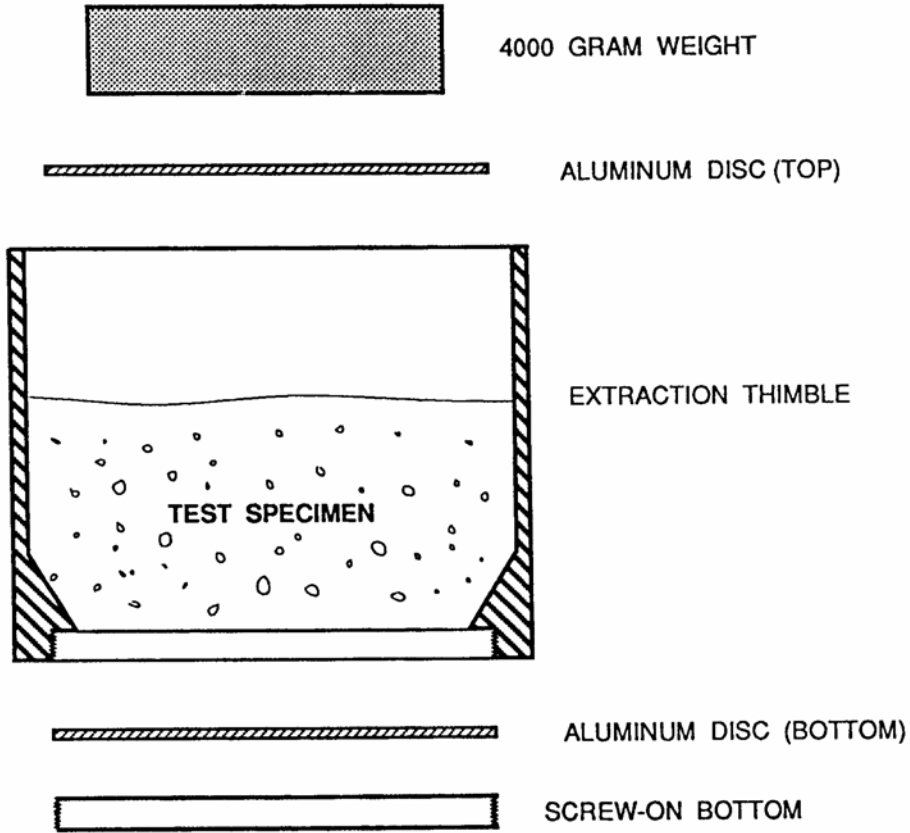

FIGURE 1. Equipment Assembly
1. Extraction Thimbles: 3 extraction thimbles as shown in Figure 1 and 2.
2. Place an aluminum disc in the bottom of each extraction thimble as shown in Figure 1 and attach the screw-on bottom so that the aluminum disc is firmly held in place.
7. Place an aluminum disc on top of each mix (Figure 1).
8. Place a cylindrical steel block on top of each disc (Figure 1).